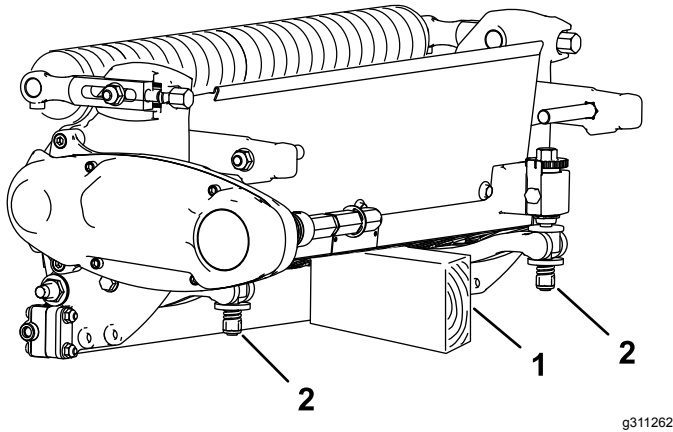

Figure 4
- With the cutting unit removed from the machine, prop up the rear of the cutting unit to ensure that the nuts on the back end of the bedbar adjusting screws are not resting on the work surface (Figure 4).